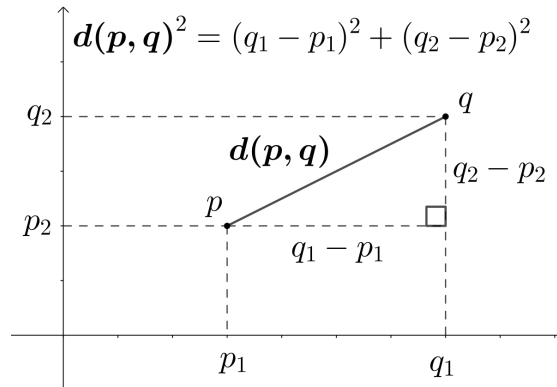

Fig 73: Diagram of euclidean distance.
- 4) The euclidean distance between each key-point in two adjacent frames is calculated with units of meters (Fig 73).